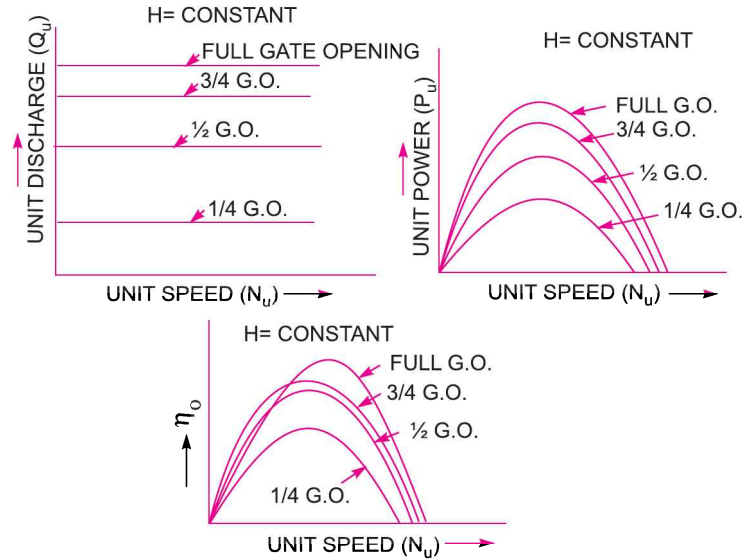

Fig. 18.35 Main characteristic curves for a Pelton wheel.
18.13.1 Main Characteristic Curves or Constant Head Curves. Main characteristic curves are obtained by maintaining a constant head and a constant gate opening (G.O.) on the turbine. The speed of the turbine is varied by changing load on the turbine. For each value of the speed, the corresponding values of the power (P) and discharge (Q) are obtained. Then the overall efficiency (η_o) for each value of the speed is calculated. From these readings the values of unit speed (N_u), unit power (P_u) and unit discharge (Q_u) are determined. Taking N_u as abscissa, the values of Q_u, P_u, P and η_o are plotted as shown in Figs. 18.35 and 18.36. By changing the gate opening, the values of Q_u, P_u and η_o and N_u are determined and taking N_u as abscissa, the values of Q_u, P_u and η_o are plotted. Fig. 18.35